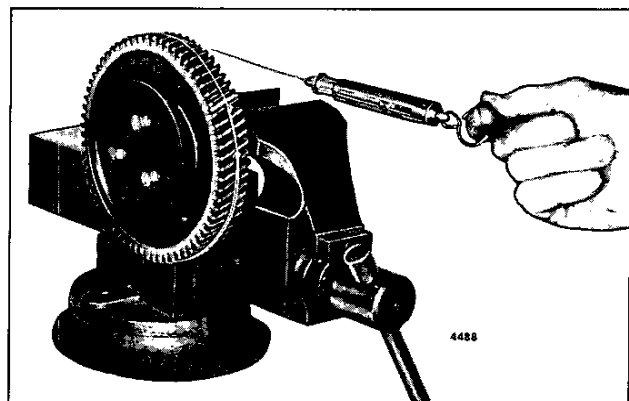

Fig. 11 – Checking Pre-Load of Idler Gear Bearing
4. Tie one end of a piece of lintless 1/8" cord around a 1/8" round piece of wood (or soft metal stock). Place the wood between the teeth of the gear, then wrap the cord around the periphery of the gear several times. Attach the other end of the cord to a spring scale, J 8129 (Fig. 11). Maintain a straight, steady pull on the scale, 90° to the axis of the hub, and note the pull, in pounds and ounces, required to start the gear rotating. Make several checks to obtain an average reading. If the pull is within 1–1/4 lb. minimum to 6 lbs. 12 ounces maximum and does not fluctuate more than 2 lbs. 11 ounces, the idler gear and bearing assembly are satisfactory for use.